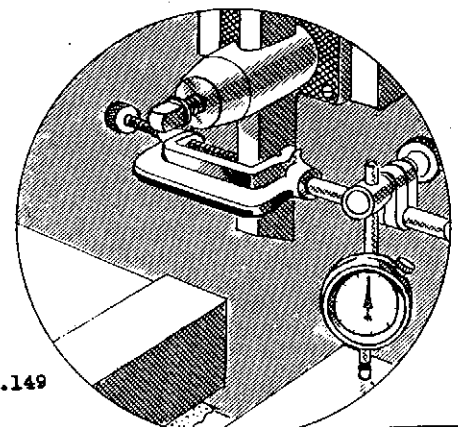

FIG. 149
NOTE: Dial indicators are made with two types of contact shafts, one parallel and the other perpendicular to the face of the dial. Figs. 149 and 152 illustrate the arrangement for both types of indicators.
5. Observe that the indicator has a contact shaft perpendicular to the face of the dial. When a vertical surface is being tested, this style of indicator can be read more conveniently than can an indicator with a contact shaft parallel with the face of the dial. (Refer to page 127, Figs. 149 and 152.)
5. Observe that the indicator has a contact shaft perpendicular to the face of the dial. When a vertical surface is being tested, this style of indicator is more conveniently read than is an indicator with a contact shaft parallel with the face of the dial. (Refer to page 127, Figs. 149 and 152.)